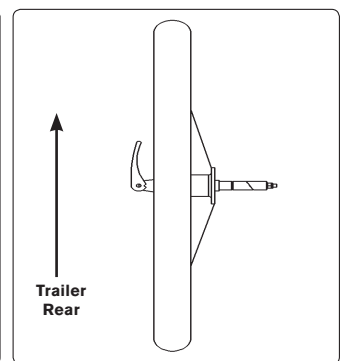

FIGURE 2: Quick release lever in locked "closed" position (Top View)
2. Close quick release lever, with lever aimed at trailer rear. A properly adjusted quick release lever should leave an imprint on your palm when the lever is rotated to the closed position. **FIGURE 2**